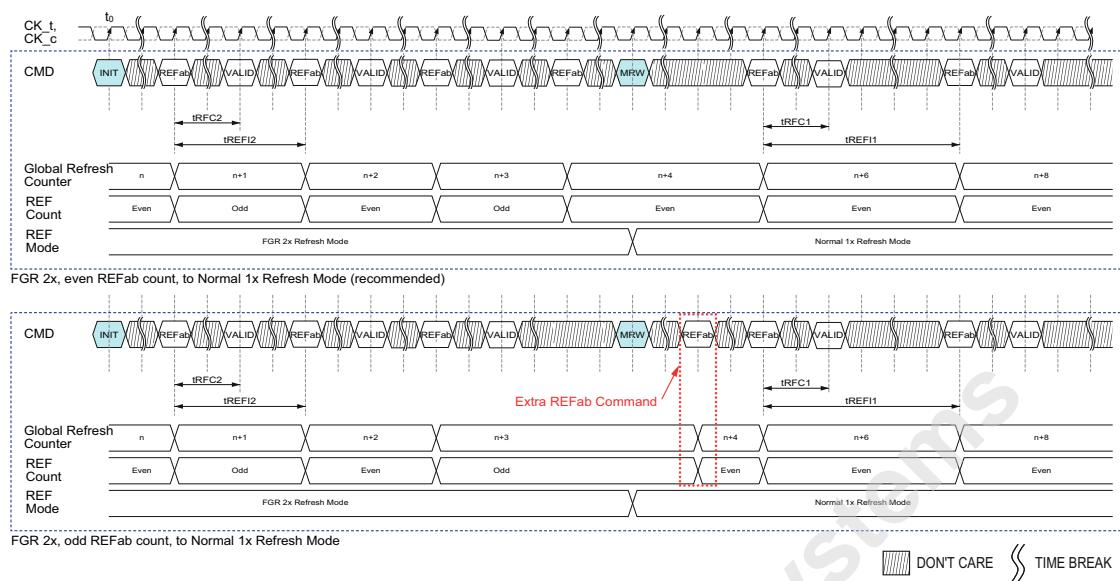

Figure 67 — Refresh Mode Change from FGR 2x to Normal 1x Command Timing
2. If performing REFab commands in the Fine Granularity Refresh mode, it is recommended that an even number of REFab commands are issued to the DDR5 SDRAM since the last change of the Refresh mode with an MRW command before the Refresh mode is changed again by another MRW command. If this condition is met, no additional Refresh commands are required upon the Refresh mode change. If this condition is not met, one extra REFab command is required to be issued to the DDR5 SDRAM upon Refresh mode change. This extra Refresh command is not counted toward the computation of the average refresh interval (tREFI1). This extra Refresh counts toward the maximum number of refreshes which may be postponed. See Figure 67.